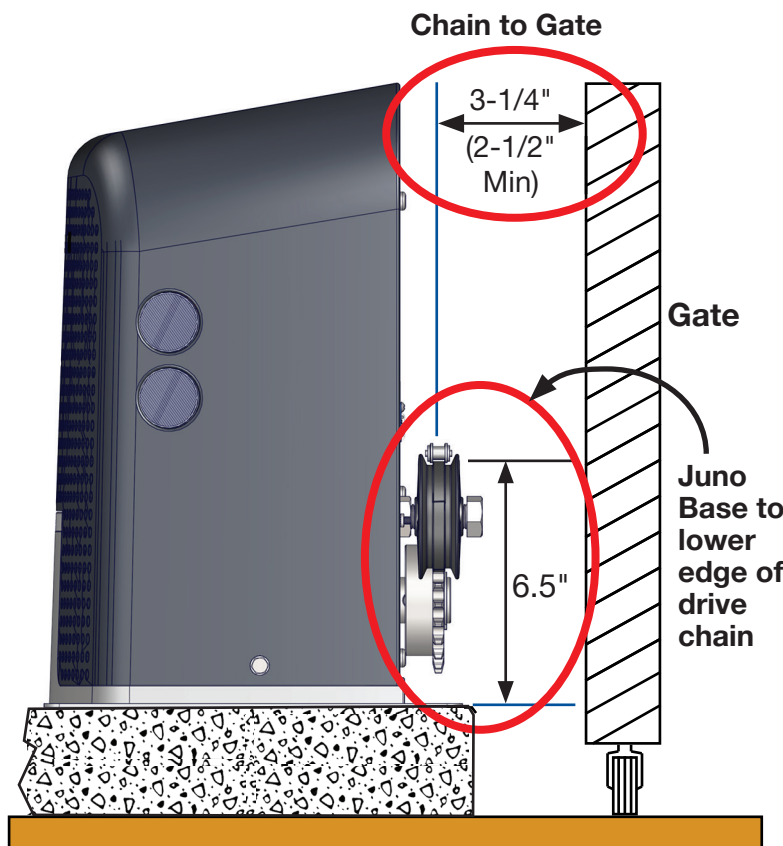
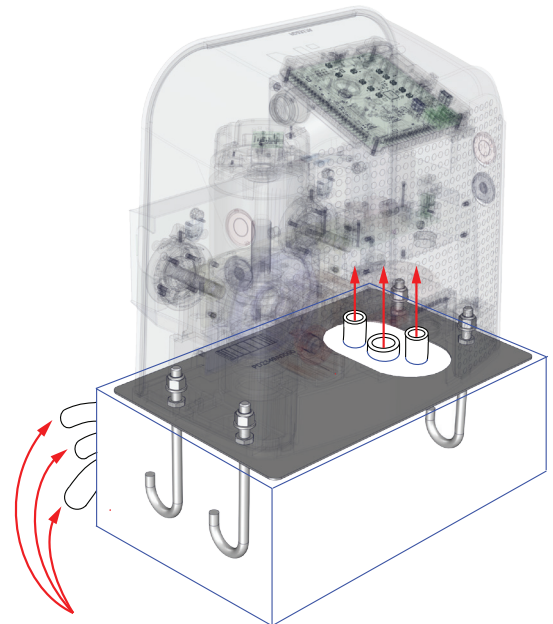

FIG. 1-3: Important Pad to Gate Dimensions
FIG. 1-5: Juno with J-Bolts
- Assess limitations in the chain path, such as gate support posts. Adjust operator's location and position as required according to the necessary dimensions in FIG. 1-3. Mark the mounting locations based on gate, operator and chain requirements. Mark the drill point at the center of slots to allow for adjustments.
- Attach Juno to the concrete pad with hardware, ensuring conduits are oriented properly inside the Juno operator (FIG. 1-5) and that all critical dimensions are maintained (FIG. 1-3).